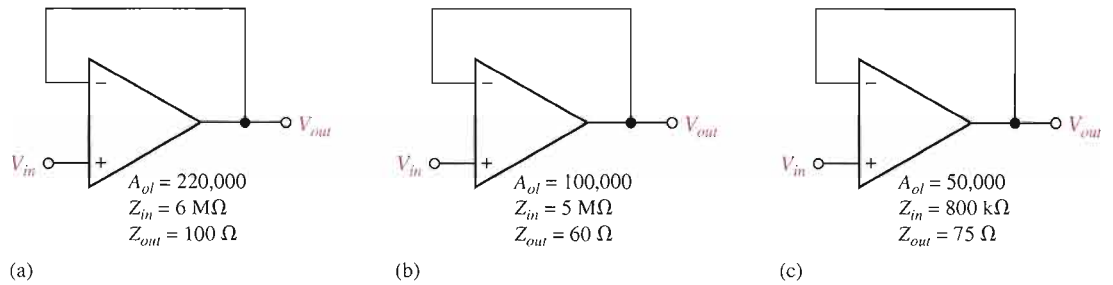

FIGURE 12-61
20. Repeat Problem 19 for each circuit in Figure 12-61.